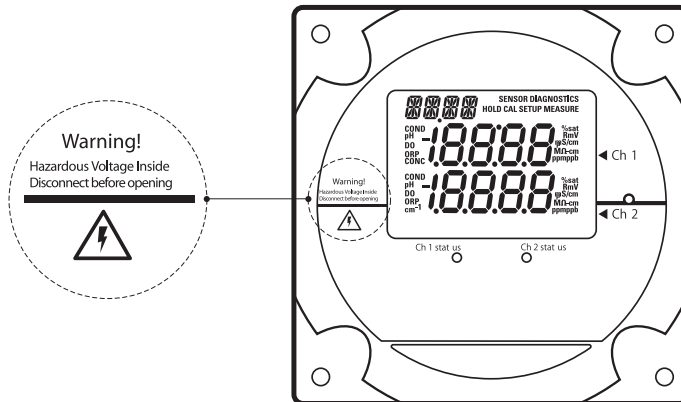

Figure 2.2 Faceplate
- Faceplate – Refer to Figure 2.2.